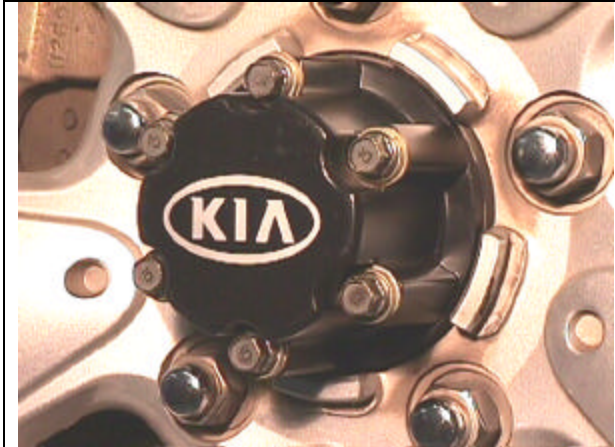
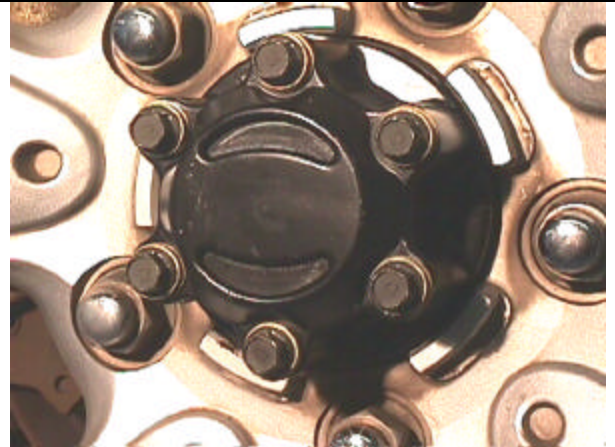

Figure 1 - Cam Type Auto Hublock
Figure 2 - Vacuum Type Auto Hublock
1. The Sportage was produced with two different types of automatic hublocks. For 1995-1997 the Sportage came with a cam type automatic hublock as shown in Figure 1. From 1998 it came with a vacuum type automatic hublock as shown in Figure 2.